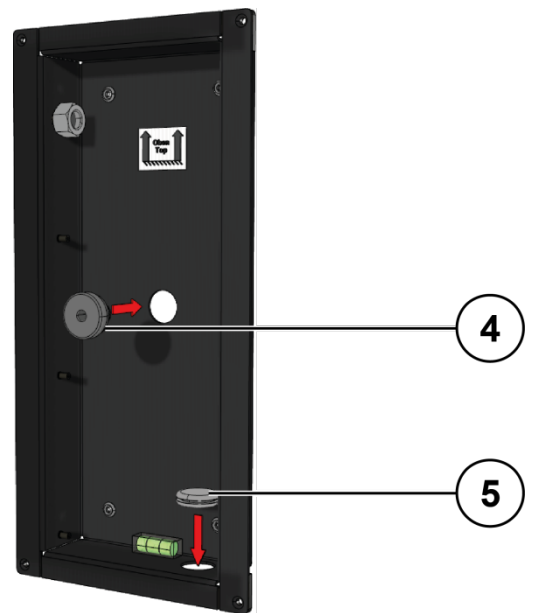

Fig. 3: sealing plug
**i** Use the enclosed sealing plugs (Fig. 3). There are no warranty claims due to improper installation.